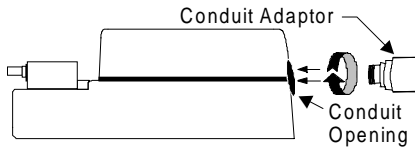

Figure 5: Inserting the Conduit Adaptor
4. Insert the conduit adaptor (supplied with the actuator) into the unplugged conduit opening. Hand-tighten by turning in a clockwise direction as shown in Figure 5.